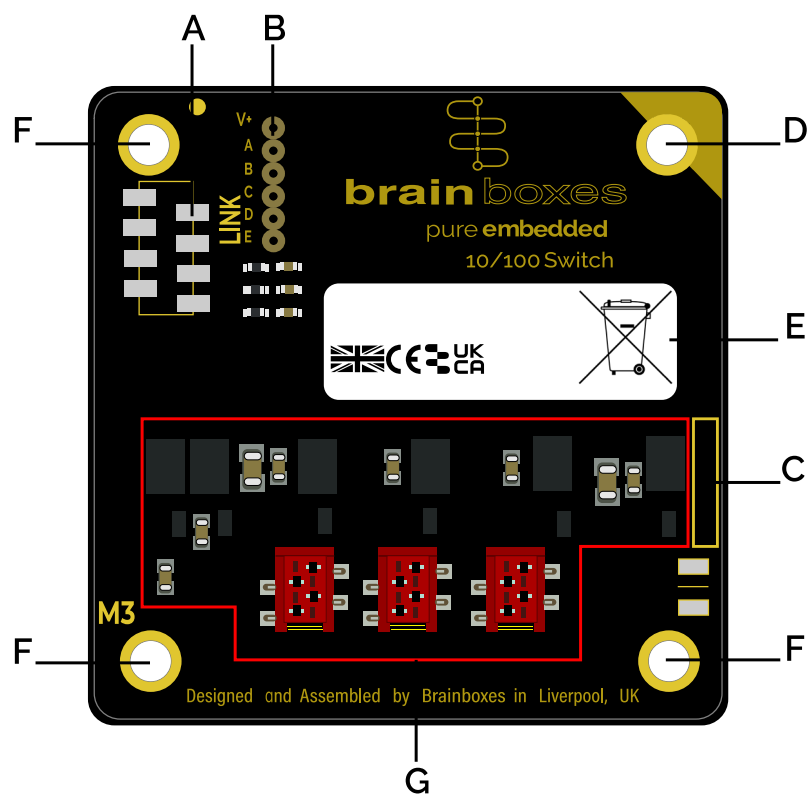

Figure 9 – Device Markings Outline
The 4 x M3 mounting holes are connected to Functional Earth (FE) or Ground (GND) and labelled accordingly (See Section 9.1, Figure 9). If the device does not share a common ground with the rest of the system, it is recommended to use a nonconductive standoff or isolated mounting point.